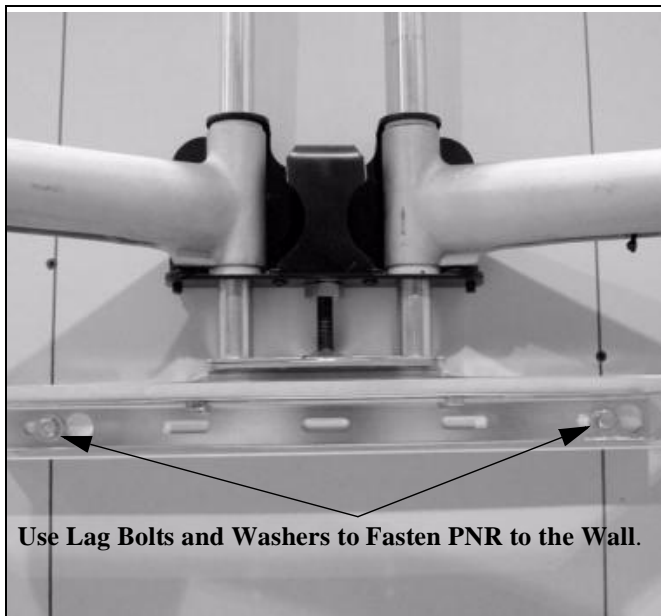

Figure 3
1. Mark the two mounting holes in the bottom mounting bracket (See figure 3). Make sure to align the holes parallel to the holes drilled in the top bracket.
3. Install two 3/8" x 2-1/2" lag bolts (50) and two 3/8" washers (60) through PNR Bottom Bracket into the lower pilot holes.